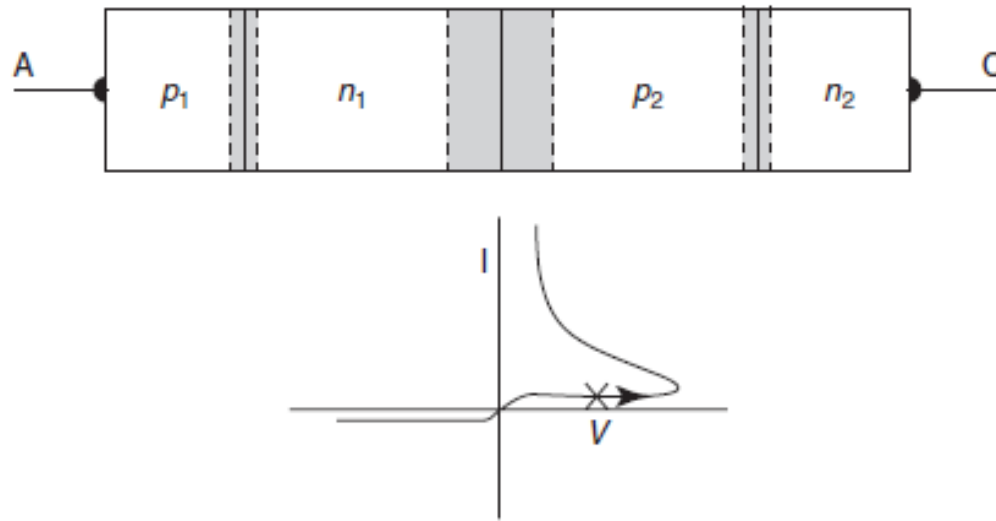

Figure 8-4 (a) The forward-blocking state of the SCR
- When the device is biased in the forward-blocking state, as shown in Fig. 8-4(a), the applied voltage appears primarily across the reverse-biased junction j_2 . Although the junctions j_1 and j_3 are forward-biased, the current is small.